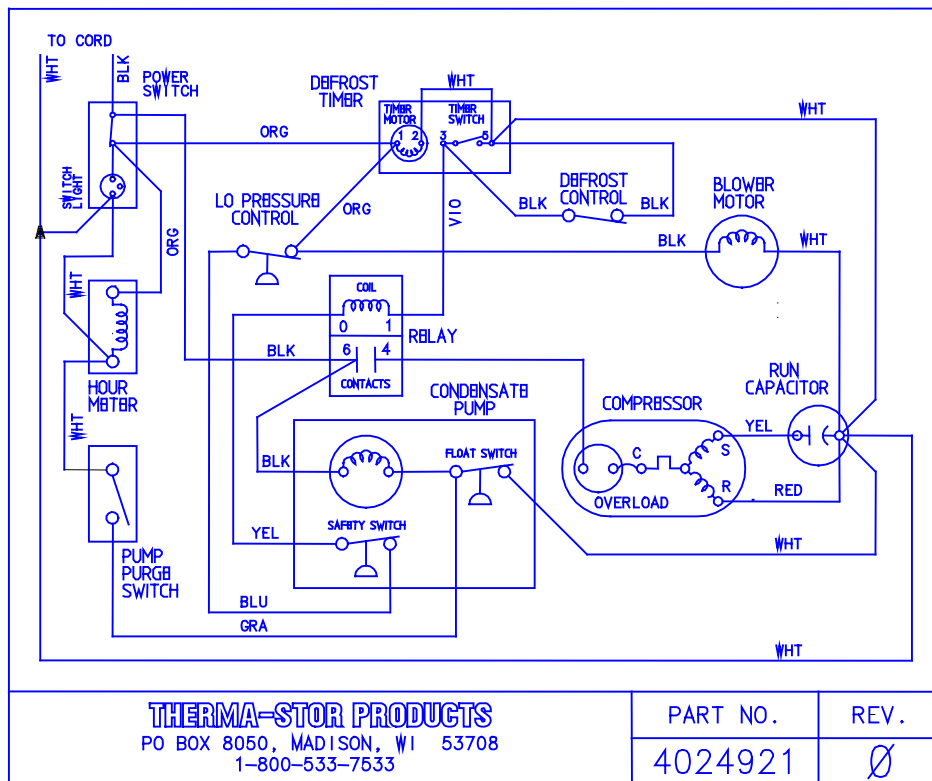

Figure 3: Electrical Schematic of Phoenix 200 Max
1. Bad connection in compressor circuit (Fig. 3).
1. Loose connection in blower circuit (see Fig. 3).
4. Bad connection in pump circuit (Fig. 3).
1. Bad connection in purge switch circuit (Fig. 3).
This compressor is equipped with a two terminal external overload, run capacitor, but no start capacitor or relay (see Fig. 3).